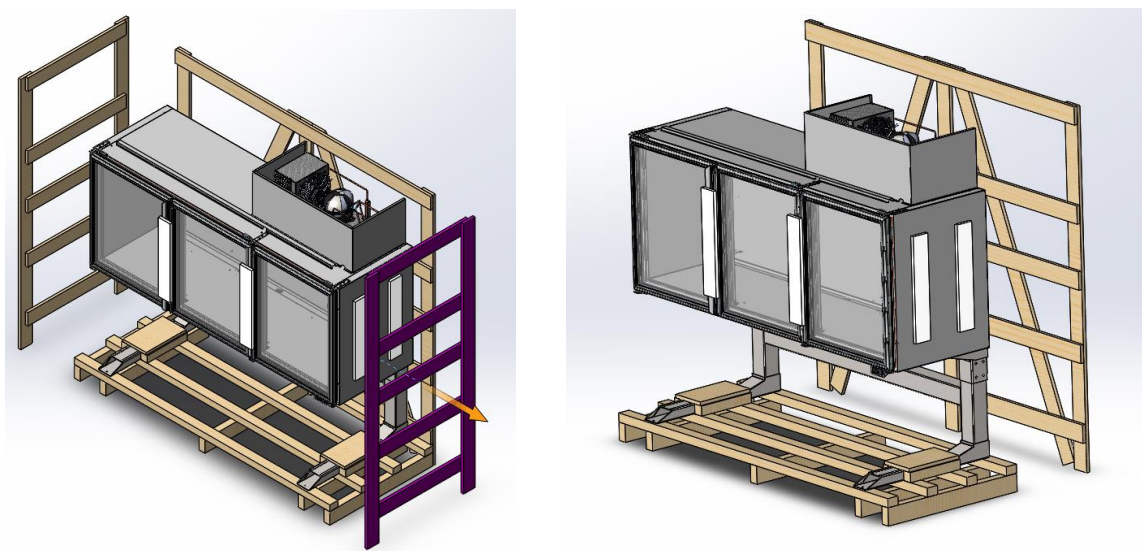

Fig. 6.1.2. End fittings
3. Dismantle the end grills (Fig. 6.1.2.)